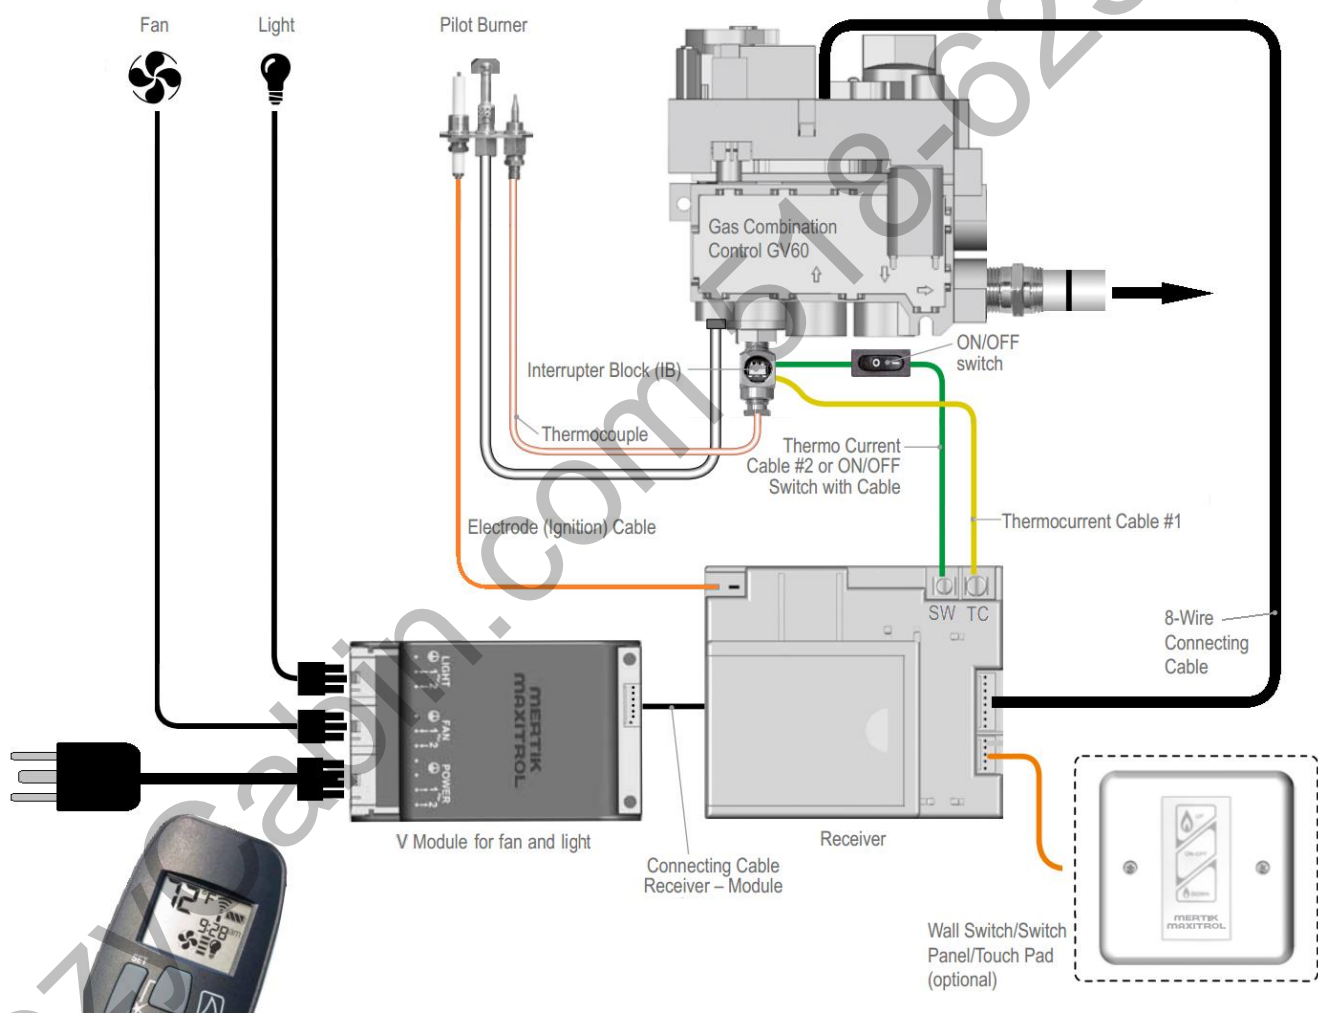

Figure 13 – Bristol 8763 Wiring Diagram
(See *Figure 13*, page 16)
1. Remove orange ignition wire from Control module and insert onto Piezo Ignitor Connection on valve top (see *Figures 13 and 16*).